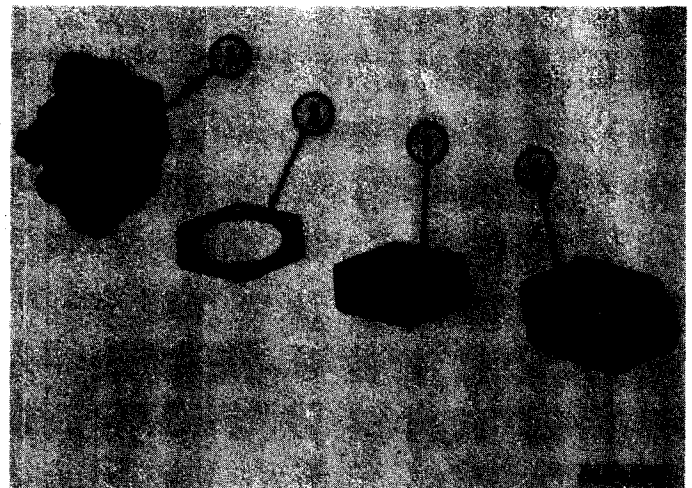

Figure 13-43
Remove cover (4, Fig. 13-43), diaphragm (3), and diaphragm ring (2) from body (1).